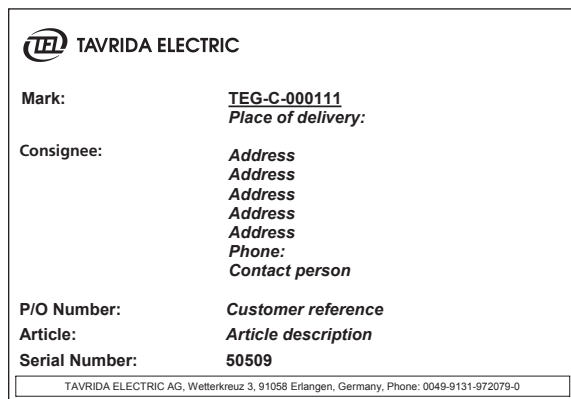

Figure 8
- Label 2 for logistics data (Figure 8)